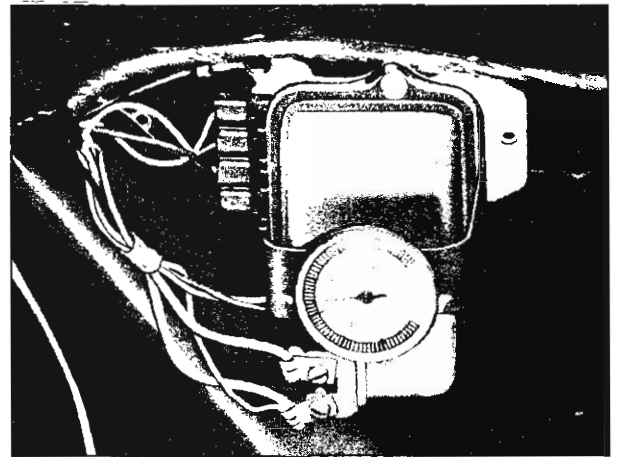

Fig. 13—Ambient Temperature Gauge
4. Install a temperature gauge on the regulator cover (fig. 13).